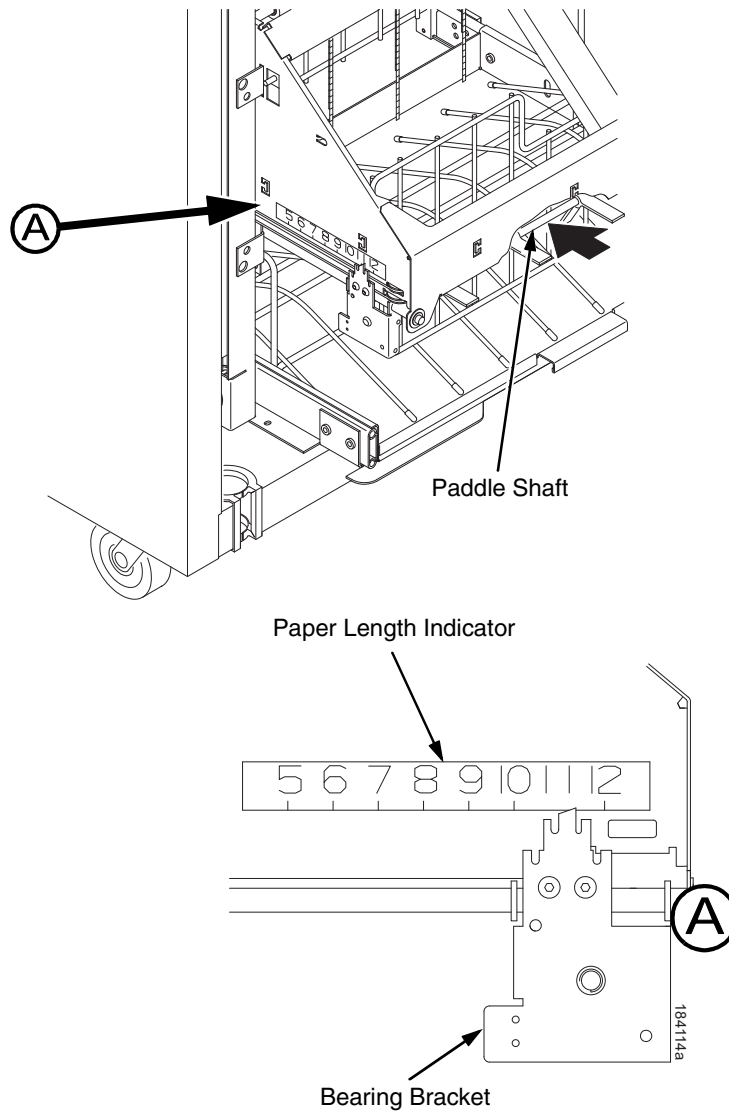

Figure 30. The Paper Length Indicator
5. Push or pull the paddle shaft toward the front or the rear of the printer to set the desired paper length. Align the indicator notch on the bearing bracket with the paper length indicator. The power stacker can handle paper or forms from 5 to 12 inches (12.7 to 30.5 cm) long. (Figure 30.)